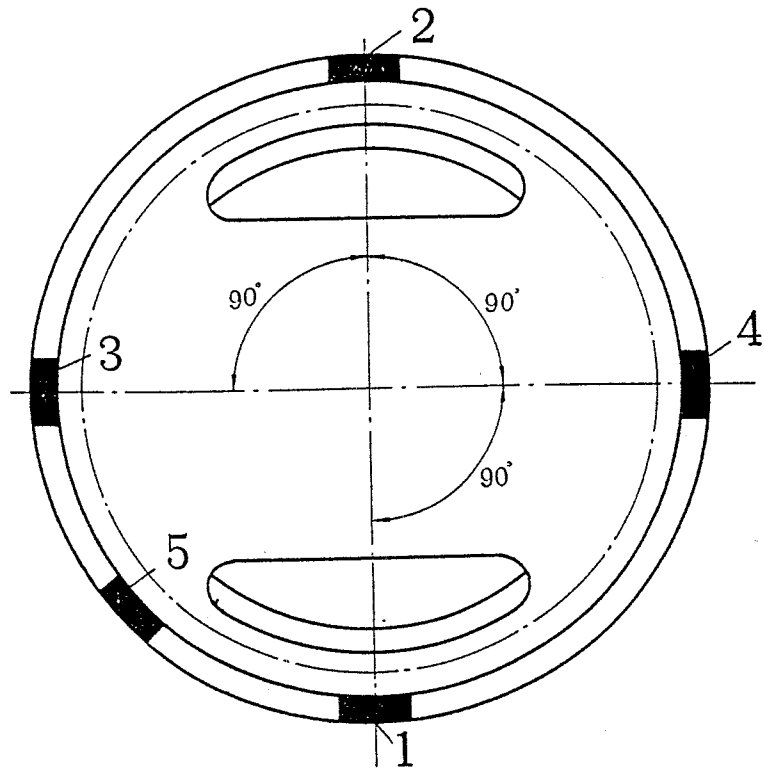

Fig. 10 Scheme of Piston Ring Notch Position of Type-6A Piston Engine
(2) Replace the piston.
D. Smear clean oil on the side surface of the piston, put the notches of the piston rings at different positions (Fig. 10, 11), then install them into the cylinder.